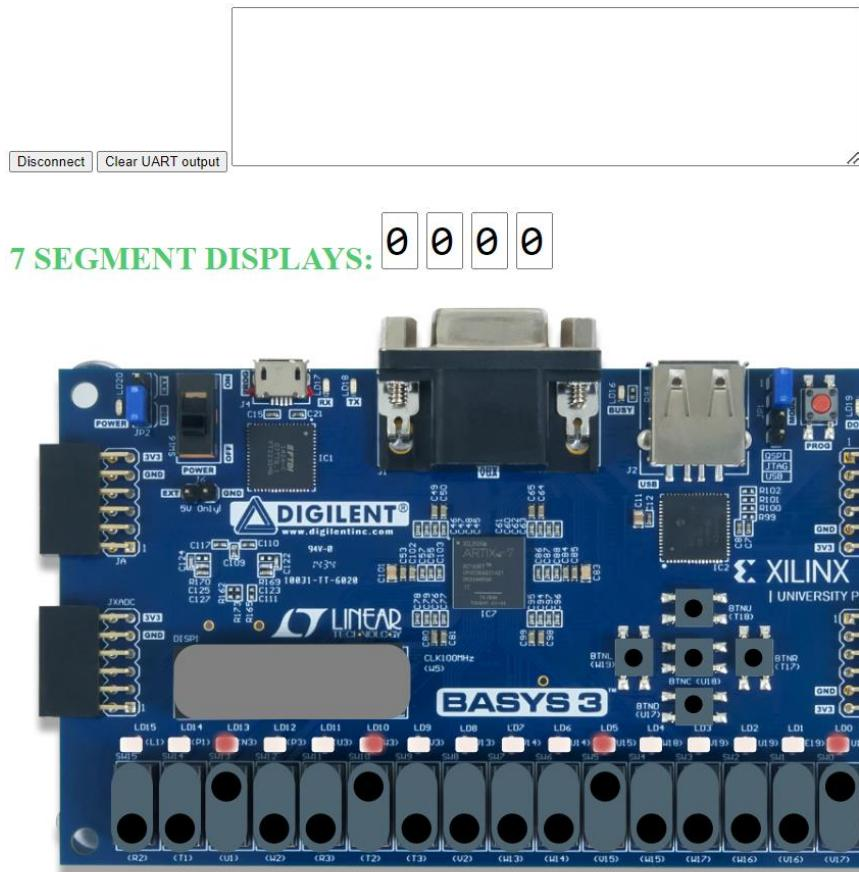

Figure 76. RVfpgaEL2-ViDBo executing the LedsSwitches program
6. Finally, open a browser and connect to <http://localhost:8000/basys3.html>. Click on Connect to the board and test the program. In the executed program, when you click on any of the 16 switches, its state will invert as well as the state of the corresponding LED (see Figure 76). As we will see later, we can execute any other program in the course.